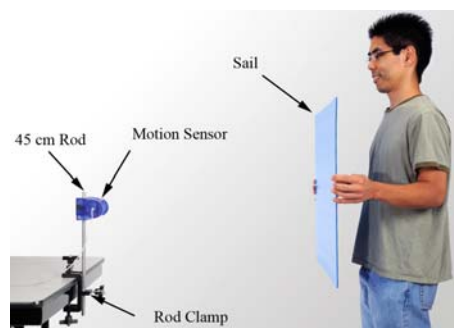

Figure 1: The large blue "sail" from the ME-9595 Car Sail is used as a target to improve the graph results using the Motion Sensor.
1. Use the Rod Clamp and 45 cm Rod to fasten the Motion Sensor to the table, as shown in Figure 1. You will need at least 3 m of empty room in front of the sensor.
3. Aim the Motion Sensor at your midsection when you are standing in front of the sensor. You will hold the large blue "sail" from the ME-9595 (see Fig. 1) in front of your body to improve your results, since a reflection from different parts of your body as you move can mimic rapid motion back and forth.
1. You will stand about 1 meter in front of the Motion Sensor, holding the "sail" as shown in Figure 1.